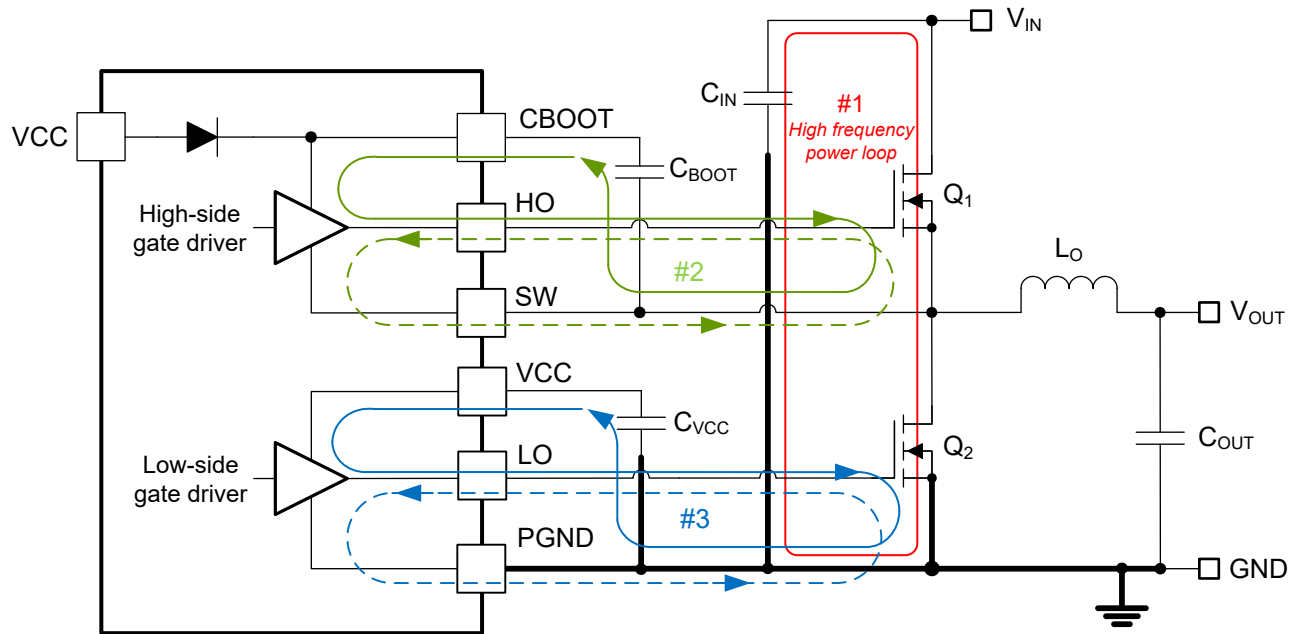

Figure 8-29. DC/DC Regulator Ground System With Power Stage and Gate Drive Circuit Switching Loops
Proper PCB design and layout is important in a high-current, fast-switching circuit (with high current and voltage slew rates) to achieve a robust and reliable design. As expected, certain issues must be considered before designing a PCB layout using the LM5137. The high-frequency power loop of a buck regulator power stage is denoted by loop 1 in the shaded area of Figure 8-29. The topological architecture of a buck regulator means that particularly high di/dt current flows in the components of loop 1, and reducing the parasitic inductance of this loop by minimizing the effective loop area becomes mandatory. Also important are the gate drive loops of the high-side and low-side MOSFETs, denoted by 2 and 3, respectively, in Figure 8-29.
- Loop 1: The most important loop area to minimize is the path from the input capacitor or capacitors through the high- and low-side MOSFETs, and back to the capacitor or capacitors through the ground connection. Connect the input capacitor or capacitors negative terminal close to the source of the low-side MOSFET (at ground). Similarly, connect the input capacitor or capacitors positive terminal close to the drain of the high-side MOSFET (at VIN). Refer to "loop 1" in Figure 8-29.
5. The SW pin connects to the switch node of the power conversion stage and acts as the return path for the high-side gate driver. The parasitic inductance inherent to loop 1 in Figure 8-29 and the output capacitance (C_{OSS}) of both power MOSFETs form a resonant circuit that induces high frequency (greater than 50MHz) ringing at the SW node. The voltage peak of this ringing, if not controlled, can be significantly higher than the input voltage. Make sure that the peak ringing amplitude does not exceed the absolute maximum rating limit for the SW pin. In many cases, a series resistor and capacitor snubber network connected from the SW node to GND damps the ringing and decreases the peak amplitude. Provide provisions for snubber network components in the PCB layout. If testing reveals that the ringing amplitude at the SW pin is excessive, then include snubber components as needed.
- Loop 2: high-side MOSFET, Q_1 . During the high-side MOSFET turn-on, high current flows from the bootstrap (boot) capacitor through the gate driver and high-side MOSFET, and back to the negative terminal of the boot capacitor through the SW connection. Conversely, to turn off the high-side MOSFET, high current flows from the gate of the high-side MOSFET through the gate driver and SW, and back to the source of the high-side MOSFET through the SW trace. Refer to "loop 2" of Figure 8-29.
- Loop 3: low-side MOSFET, Q_2 . During the low-side MOSFET turn-on, high current flows from the VCC decoupling capacitor through the gate driver and low-side MOSFET, and back to the negative terminal of the capacitor through ground. Conversely, to turn off the low-side MOSFET, high current flows from the gate of the low-side MOSFET through the gate driver and GND, and back to the source of the low-side MOSFET through ground. Refer to "loop 3" of Figure 8-29.